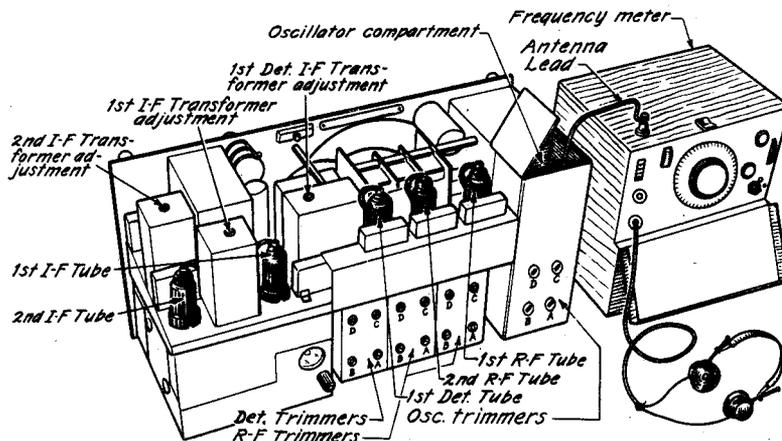

Fig. 1.—Coupling the antenna from Frequency Meter SCR-211-(\*) to oscillator compartment for i-f alignment. See text. Also, location of r-f alignment trimmers.
- Plug phones into frequency meter, and insert the end of antenna lead from the frequency meter into receiver oscillator compartment (open hinged cover) so that its end (no conductors exposed) lies close to the stator plates of the oscillator tuning capacitor section. See figure 1.
- Tune frequency meter to 92.5 kc above the frequency at which the receiver dial is set for (if 200 kc,  $200 + 92.5$  or  $292.5$  kc), then slowly tune the frequency meter dial back and forth, about 15 kc, until a varying beat frequency note is heard in the phones. When zero beat is heard in the phones, cease tuning, and note the point on the frequency meter dial at which zero beat is heard. Consult the frequency meter calibration book for the frequency. If the frequency obtained is not 92.5 kc more than the frequency indicated by the receiver dial, adjust the receiver oscillator trimmer (see fig. 1) in small steps until a zero beat is heard in the frequency meter headset exactly 92.5 kc above receiver dial setting.